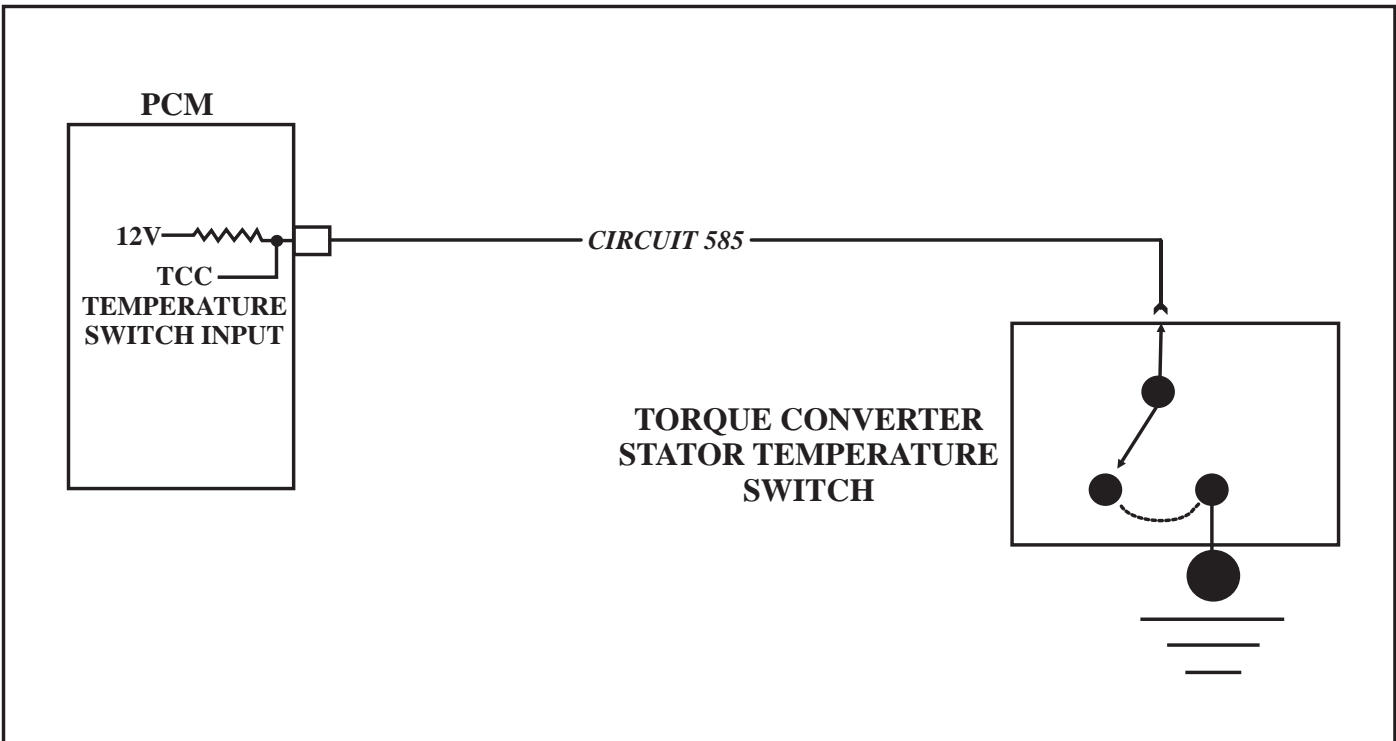

Figure 96
- Circuit 585 (See Figure 96) displays 12 volts when it is NOT indicating "Hot Mode", and less than 1 volt when it is indicating "Hot Mode" during normal operation.
- Code P1873 is stored when the PCM sees the TFT Sensor indicating a temperature of less than 140°F (60°F) but the Stator Temperature Switch is indicating "Hot Mode", (less than 1 volt on circuit 585, Refer to Figure 96).
- Code P1874 is stored when the PCM sees the TFT Sensor indicating a temperature of more than 284°F (140°C), but the Stator Temperature Switch is not indicating "Hot Mode", (battery voltage on circuit 585, Refer to Figure 96).
- Circuit 585 is shorted to ground, (Refer to Figure 96).
- Circuit 585 is shorted to B+, (Refer to Figure 96).